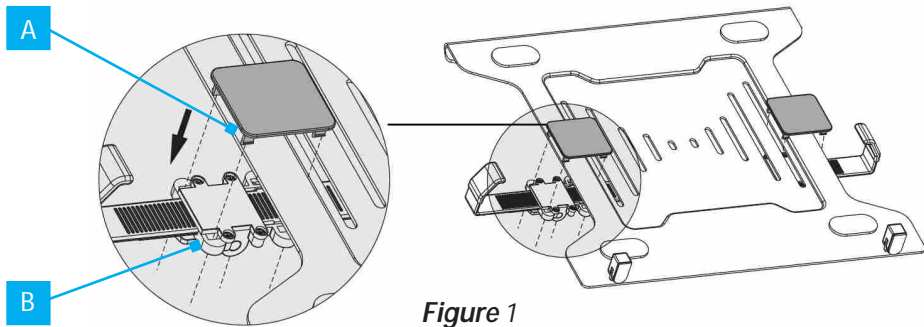

Figure 1
1. Position the **Laptop Arms** under the right and left-hand sides of the **Laptop Tray** (**Figure 1**).
3. Align the **Rectangular Slots** on the **Laptop Arms** with the edge of the **Laptop Tray** and the long **Ventilation Slot** as shown in (**Figure 1**)